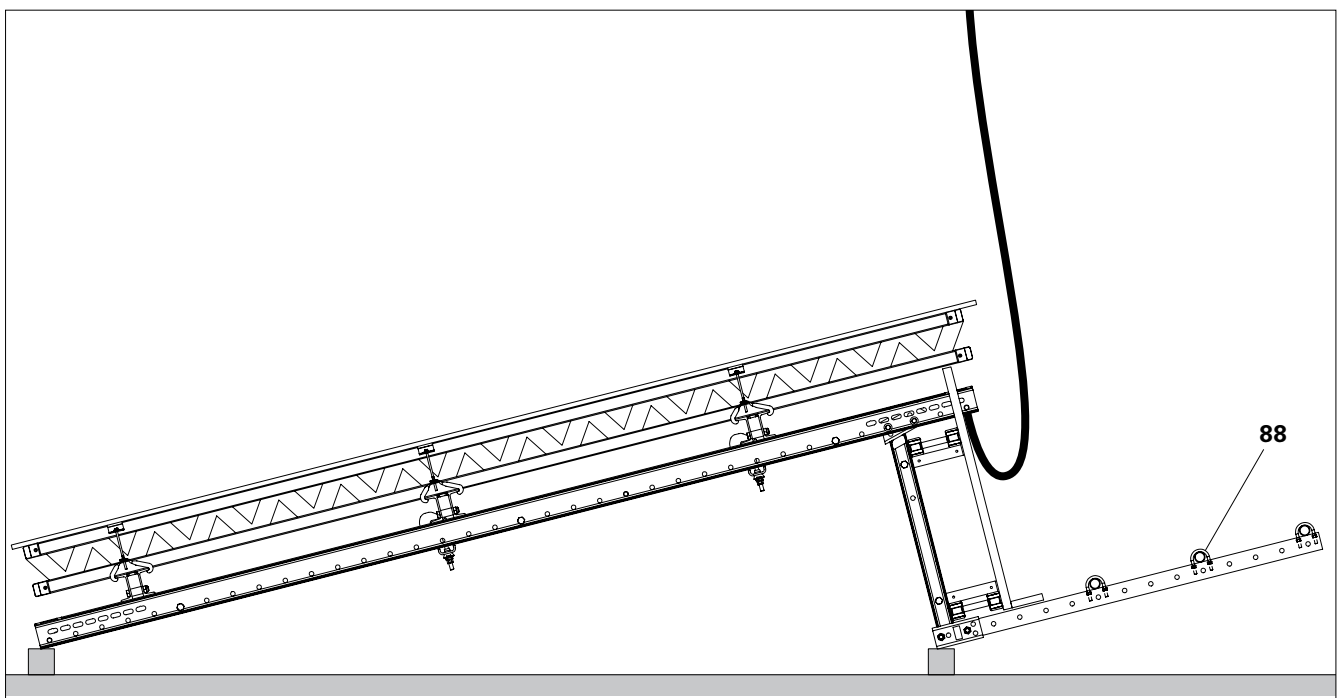

Fig. C1.12
8. Mount scaffold tubes (88) or handrail boards on the Guardrail Posts. See Section "Guardrails" on Page 48. (Fig. C1.12)